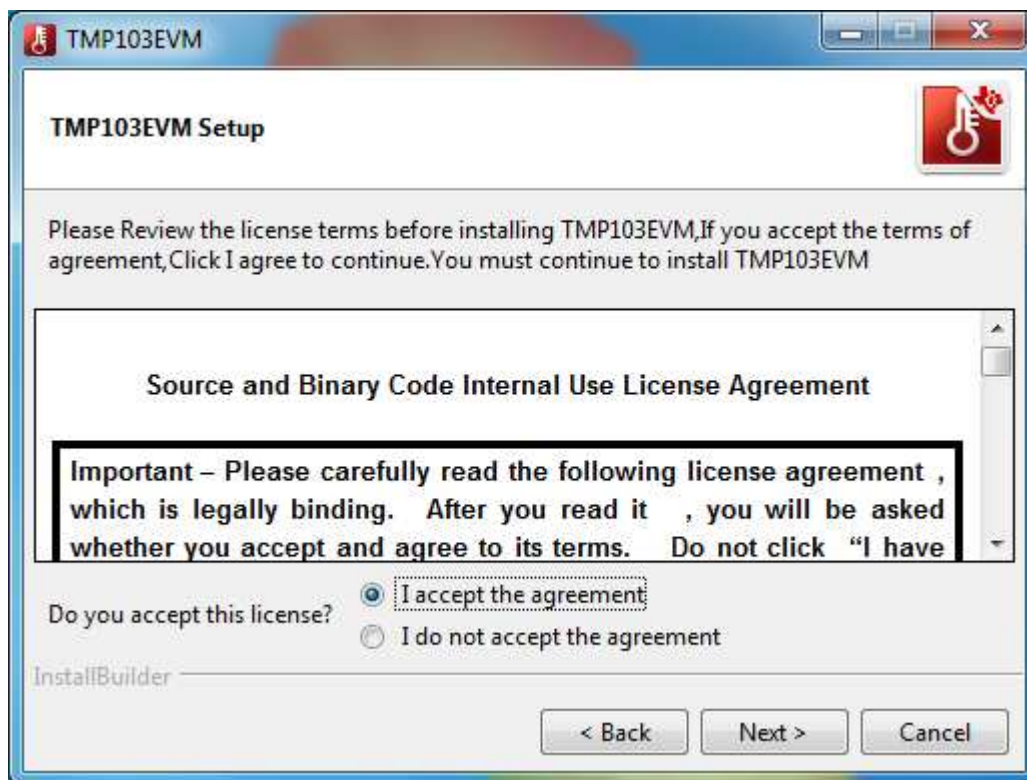
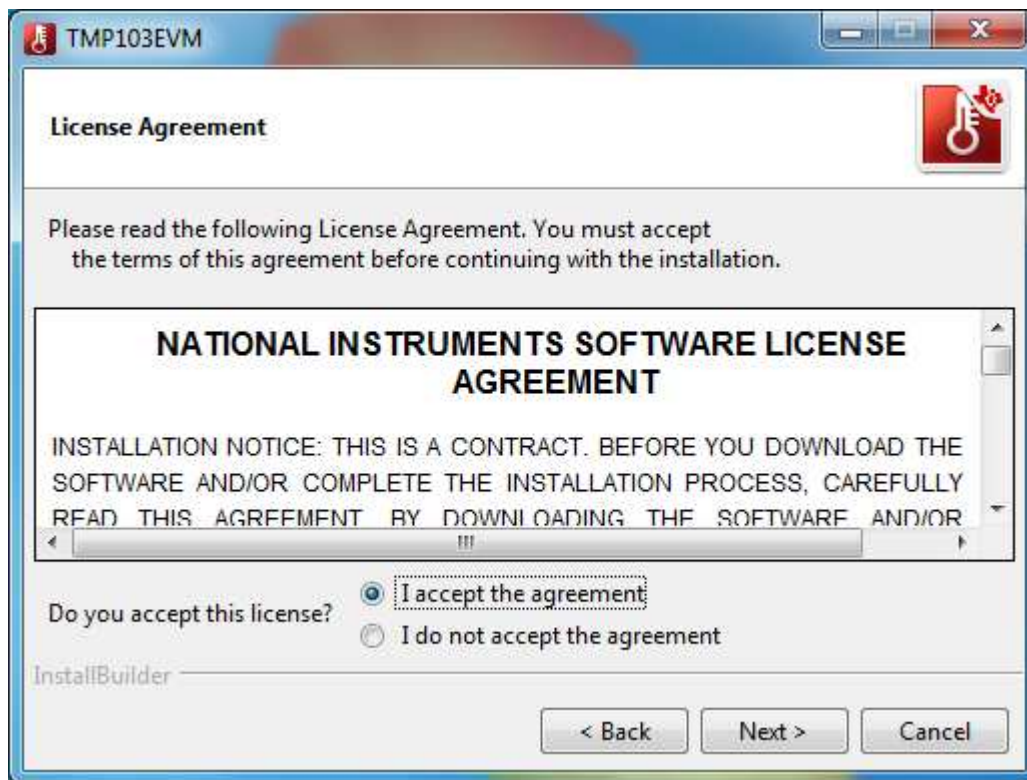
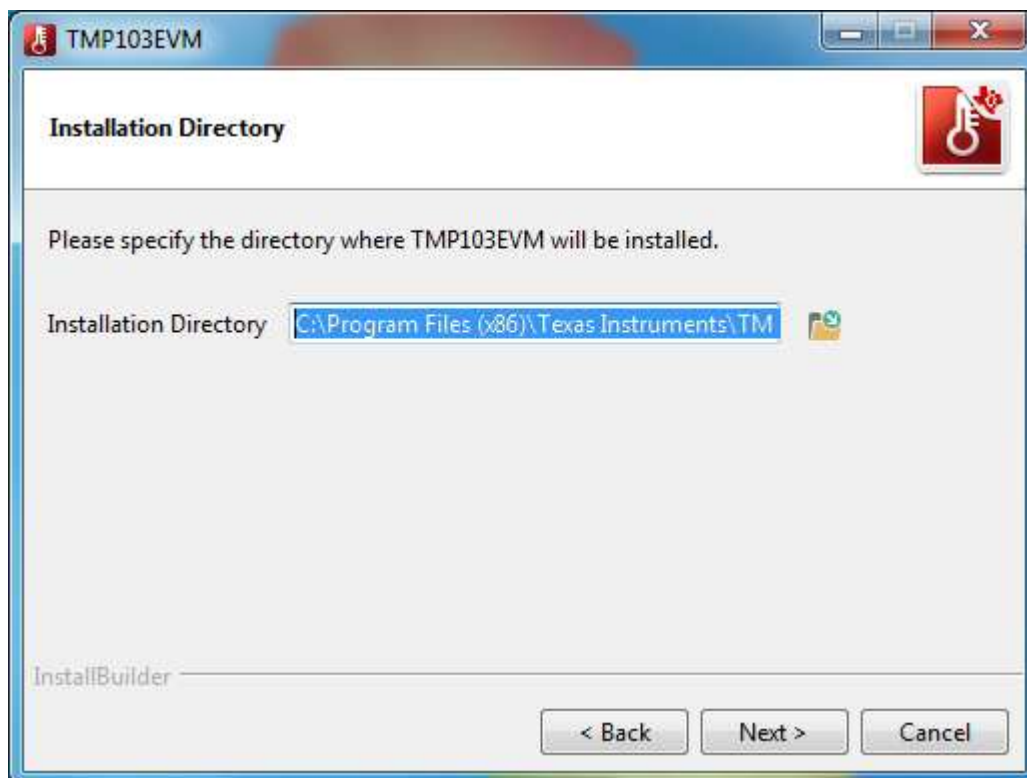

Figure 9. TMP103EVM License Agreements
Figure 10. NI License Agreements
Figure 11. TMP103EVM Installation Directory
- Follow the on-screen instructions by clicking the *Next* button to install the software. Following this option, two license agreements are presented as shown in Figure 9 and Figure 10 that must be accepted. After accepting both the Texas Instruments and National Instruments license agreements, the user is given the choice of selecting the directory to install the program; usually, TI recommends choosing the default setting stored in the *C:\Program Files\TMP103EVM* path as shown in Figure 11.